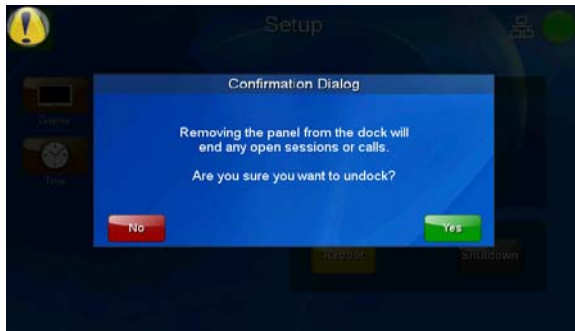

FIG. 18 Undocking confirmation dialog window
3. If the MVP-9000i was conducting a SIP call or Dynamo session at this time, a confirmation dialog window appears to warn that any open sessions or calls will end (FIG. 18). Click **Yes** to undock the panel and disconnect the call/session, or **No** to keep the panel in the Docking Station and continue the call/session.